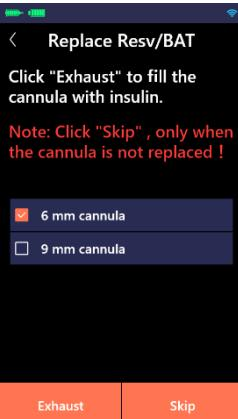

Figure 4.23
**(5)** Exhaust. Select the length of the soft cannula you are using, and then click "Exhaust", the insulin will fill the soft cannula (as shown in Figure 4.23).